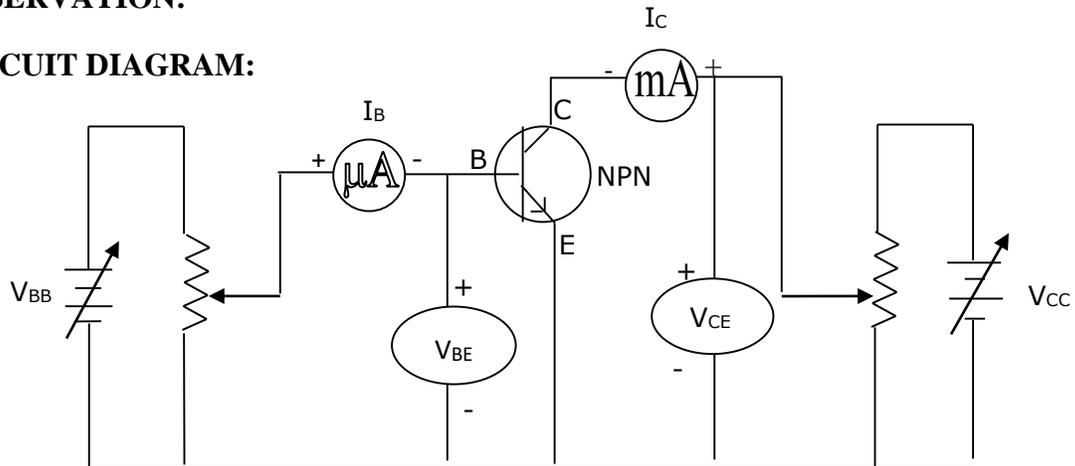

Figure 9.1
1. The electrical connections are made as shown in the Fig. 9.1.